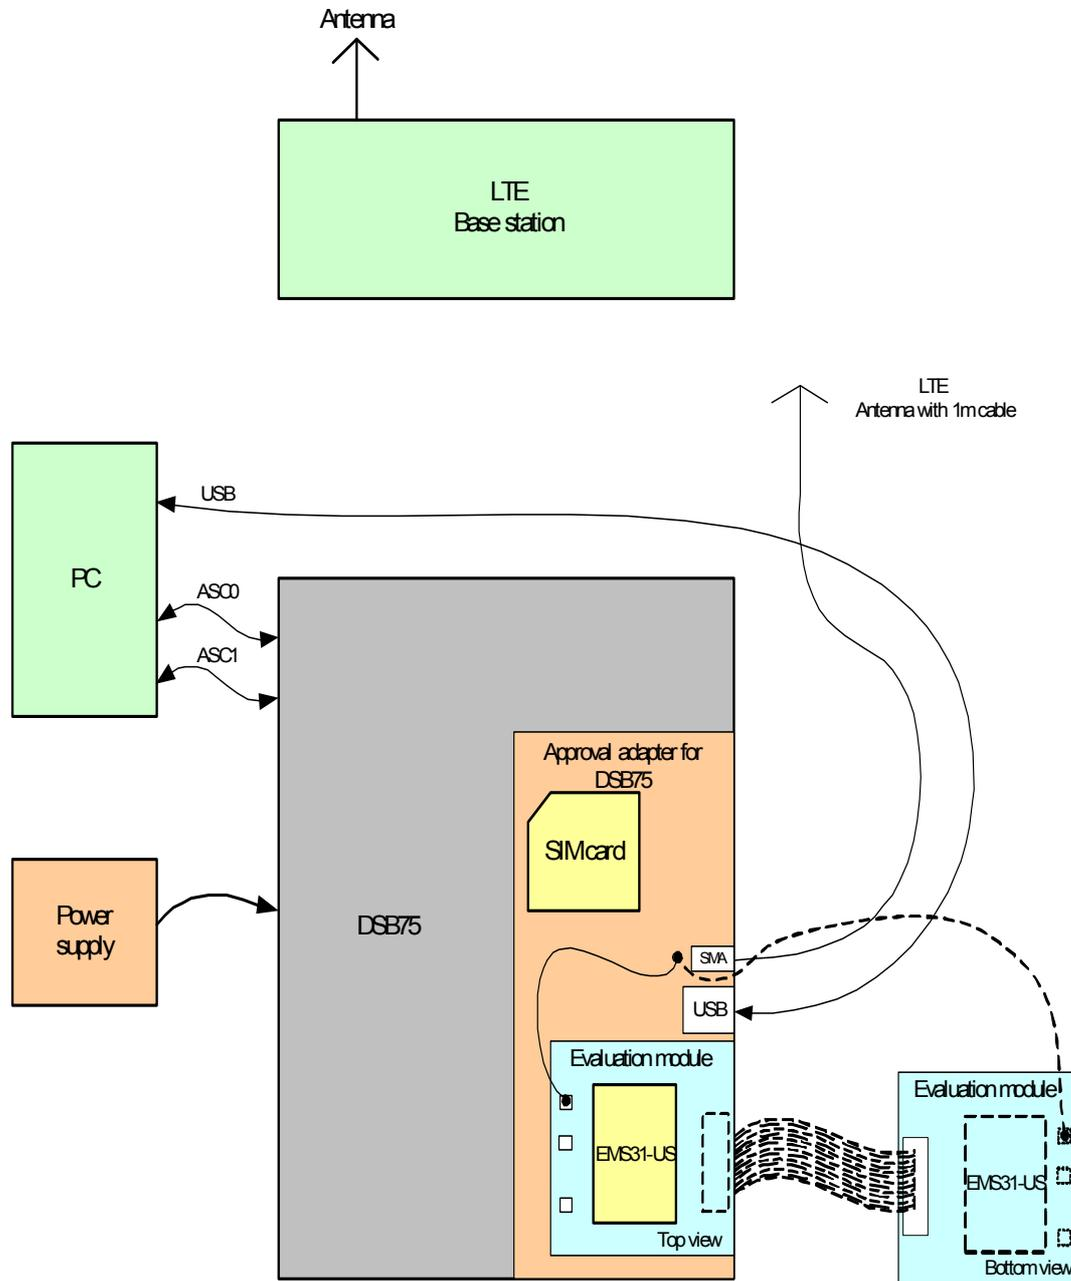

Figure 9: Reference equipment for Type Approval
1. For RF performance tests a mini-SMT/U.FL to SMA adapter with attached 6dB coaxial attenuator is chosen to connect the evaluation module directly to the LTE test equipment instead of employing the SMA antenna connectors on the EMS31-US-DSB75 adapter as shown in Figure 9. The following products are recommended: